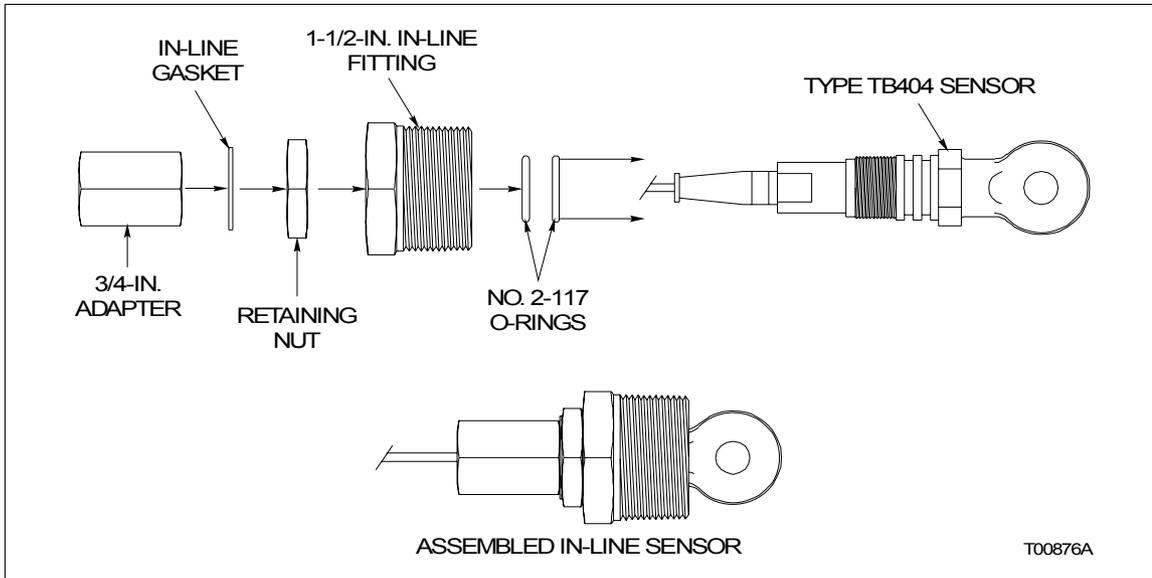

Figure PR2-1. In-Line Assembly, Exploded View
1. Lightly lubricate the No. 117 O-rings (Fig. PR2-1) with high temperature silicone grease or equivalent.